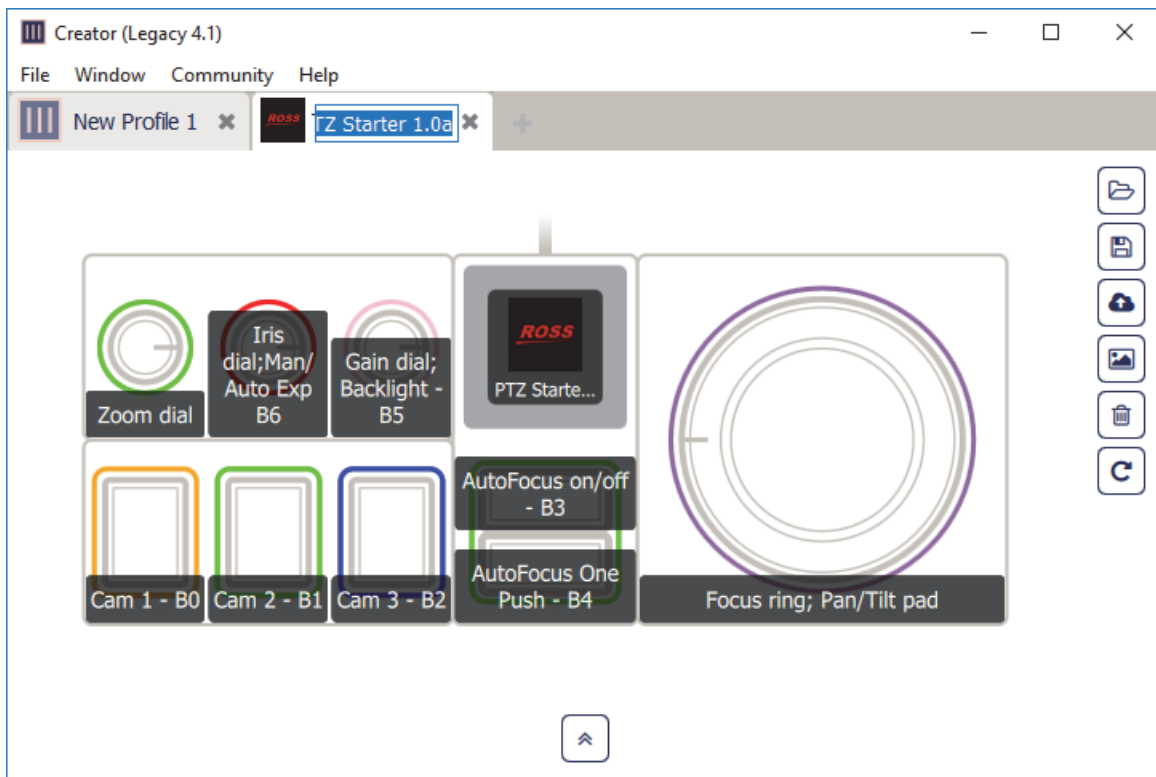

Figure 75 - Editing the Tab Name and Core Module Text
1. In Monogram Creator, double-click the profile tab. The tab name becomes editable (Figure 75).